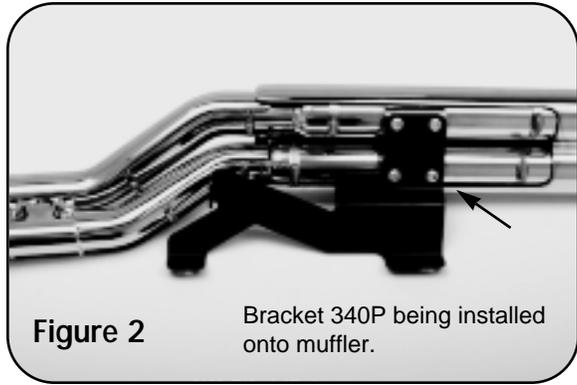

Figure 2
- Install bracket (340-P) to muffler section using two nut plates and four 5/16" x 5/8" flanged bolts(supplied). (Do not tighten at this time.) (Figure 2)